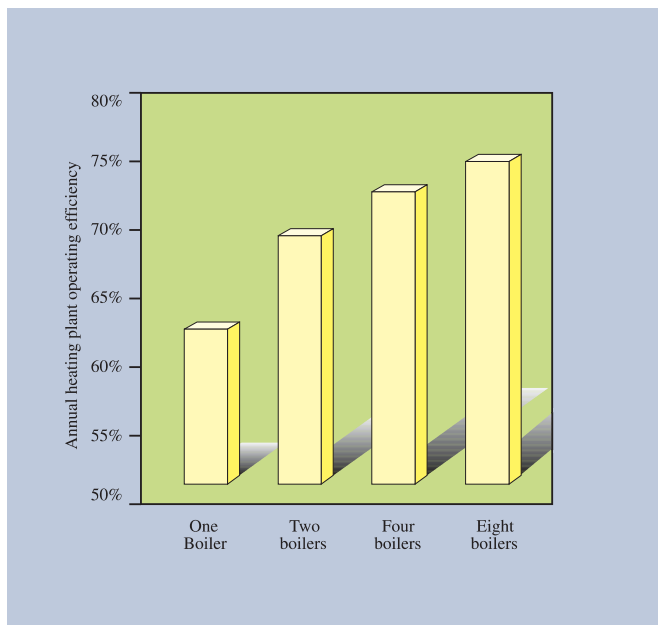

Figure 1.3: Boiler Plant Operating Efficiency
1. Modular systems have higher overall boiler plant efficiency. (Figure 1.3).